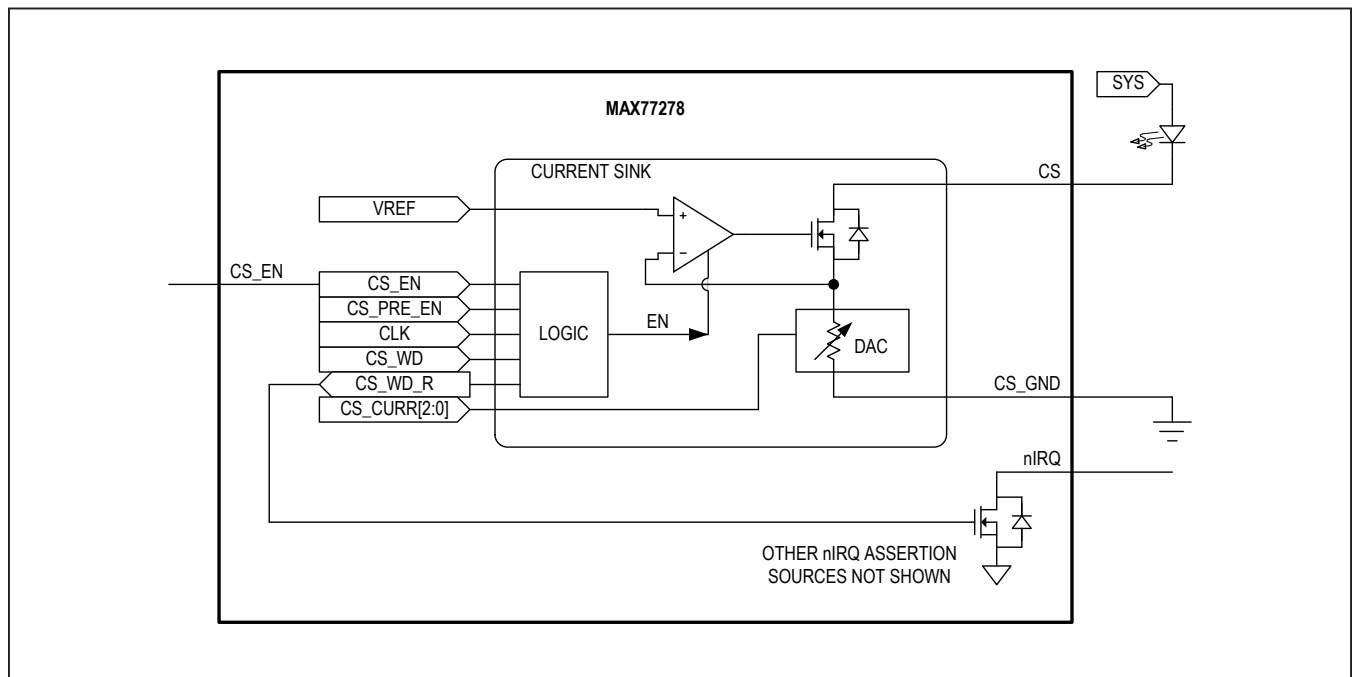

Figure 21. Current Sink Simplified Block Diagram
The device has a current sink driver (CS) designed to drive infrared LEDs in portable devices. See Figure 21. CS can also be used as a general-purpose current sink for other applications. The driver’s on-time and frequency are set by directly driving the CS\_EN pin high or low. The regulated current value is I2C programmable from 250mA to 425mA in 25mA increments.